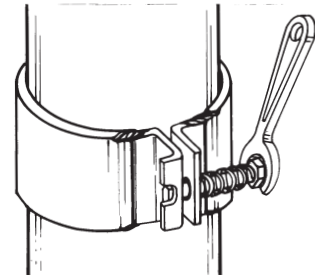

Figure 3
- Turn nut to draw heater band tight on the surface to be heated. Ensure that there is good contact between heating element and surface. (See Figure 3)